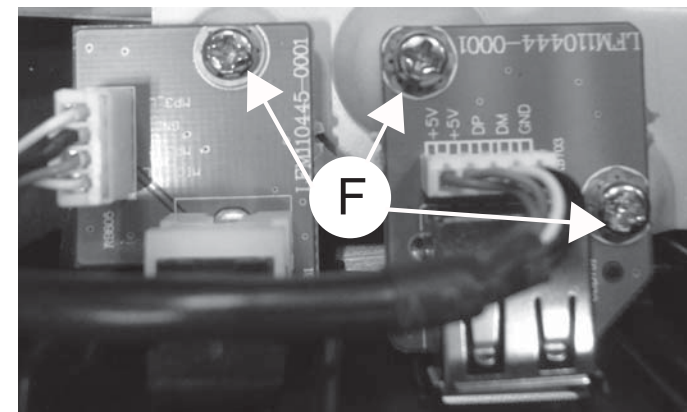

Figure 6
- 1) Loosen 3 screws "F" on the top of MP3&USB Board as shown in figure 6.